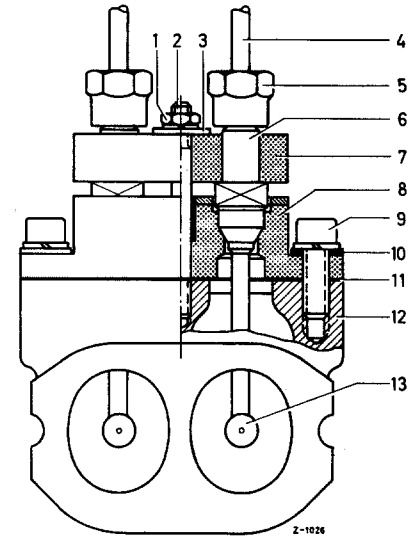

Fig. 01-4/12 d
After disconnection injection pipes (4) and unscrewing flange (7), the injection valve may be removed from the holder (8) (Fig. 01-4/12 d).
The holders (8) themselves are attached to the intake pipe (Fig. 01-4/12 d) by means of two hexagon socket screws (9) with lock washers and washers (10) and gasket (11).